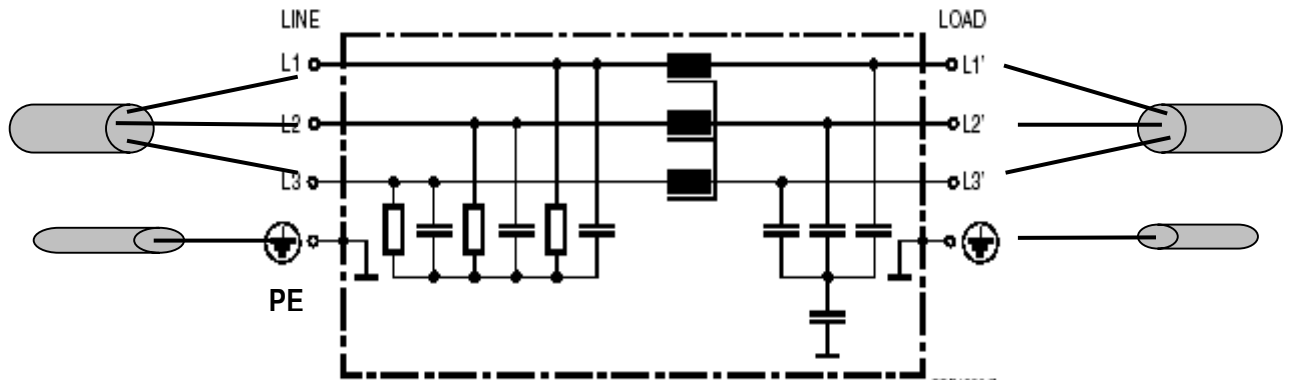

Figure E1.3 Drive connection
- Refer to Figure E1.3/4 for filter connection to the drive.